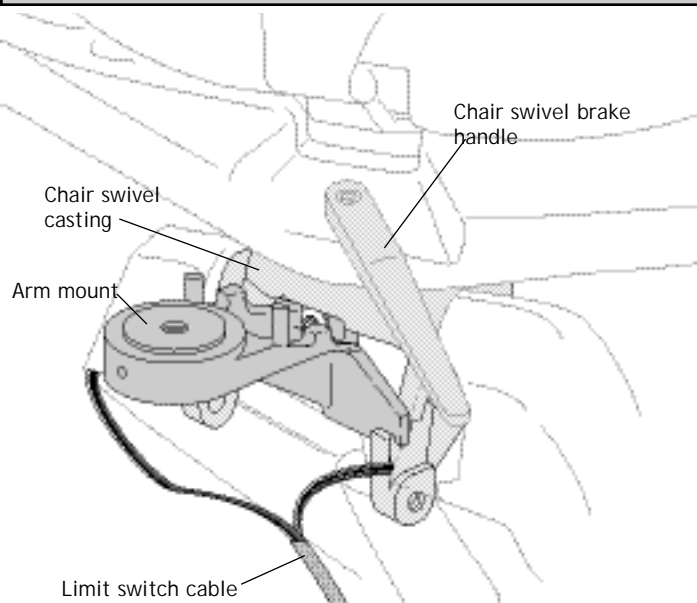

Figure 7
3. Move the brake handle to the right. Place the arm mount onto the chair swivel casting. Center the arm mount within the grooves of the chair swivel casting and under the lip of the swivel casting (see Figure 7). Be sure that the limit switch cable is beneath the arm mount.